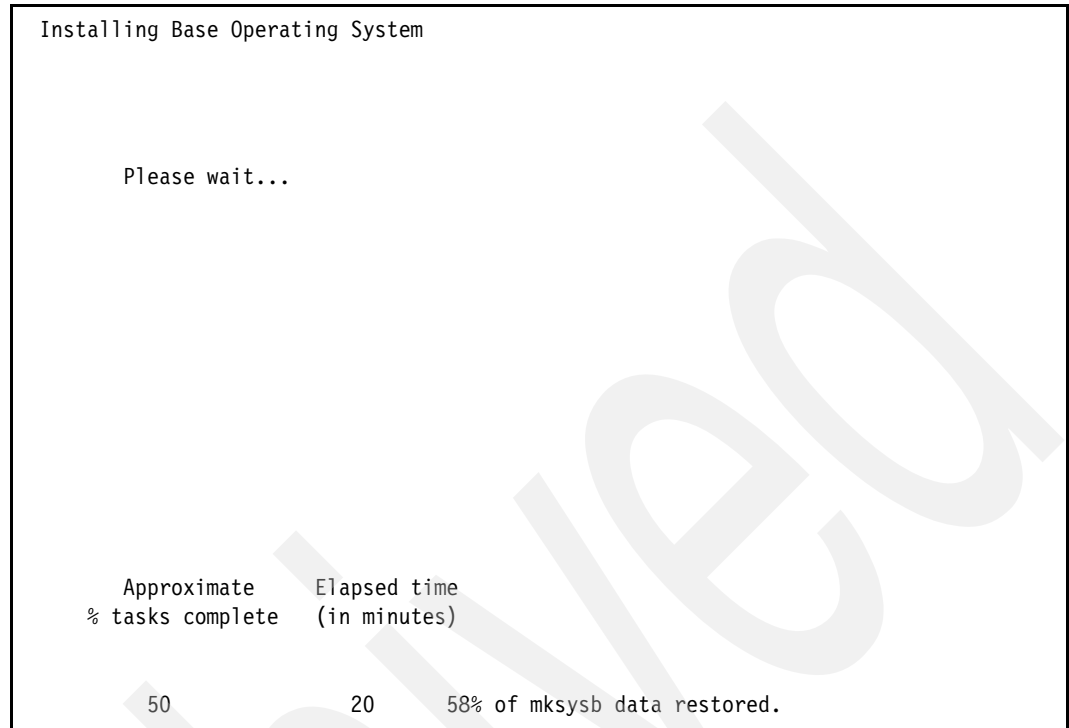

Figure 6-58 VIOS installation progress panel
18. Installation of VIOS now starts with its progress being shown on the Installing Base Operation System panel, as shown in Figure 6-58.